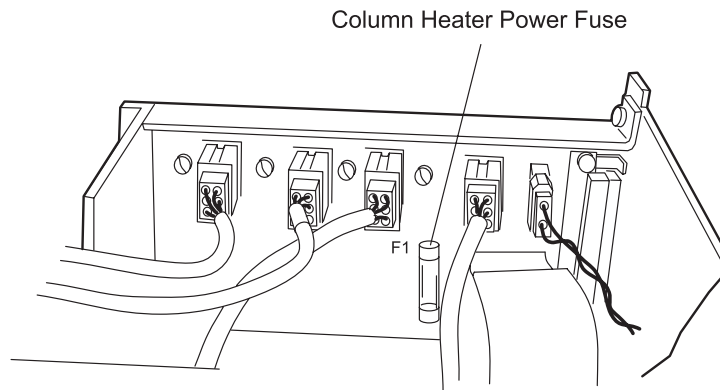

Figure 4-18 Replacing the Column Heater Power Fuse
3. Locate the fuse (see Figure 4-18). Replace the blown fuse with the correct spare fuse (included in the 600E Startup Kit). The fuse has a 2.5 A, 250 V, fast rating.